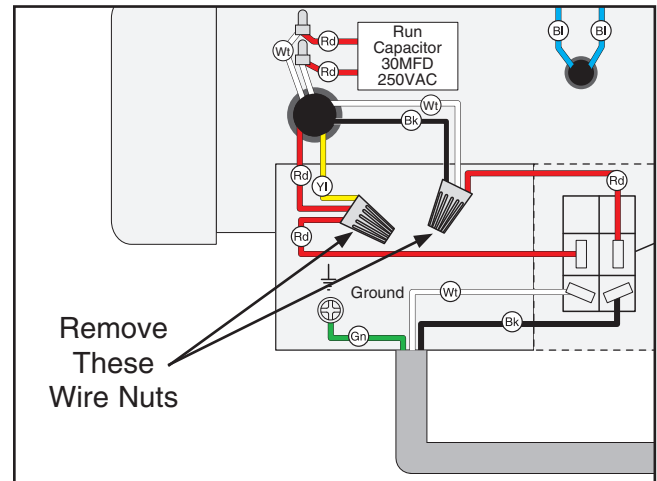

Figure 4. Location of wire nuts to remove when converting voltage.
2. Open the motor junction box, then remove the wire nuts indicated in **Figure 4**.